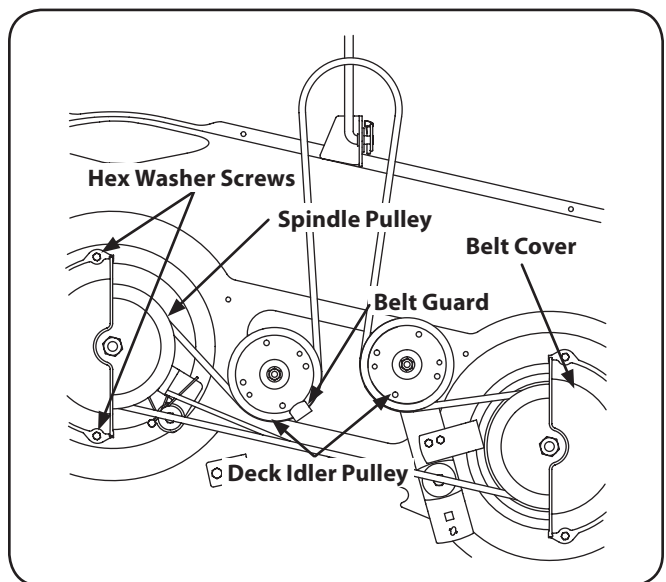

Figure 7-6
2. Remove the belt covers by removing the hex washer screws that fasten them to the deck. See Figure 7-6.
4. Carefully remove the deck belt from around the two spindle pulleys and the two deck idler pulleys. See Figure 7-6.